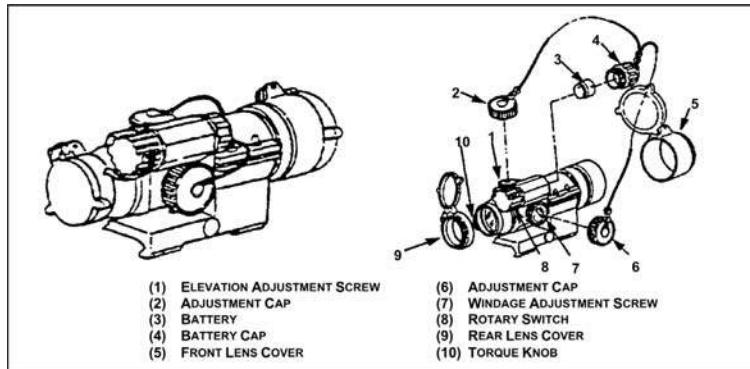

Figure 071-705-0004-3. M68, close combat optic
a. Elevation adjustment screw (figure 071-705-0003-1): One click at 25 meters equals 4 millimeters; clockwise equals down.
b. Windage adjustment screw (figure 071-705-0003-1): One click at 25 meters equals 4 millimeters; clockwise equals left.
c. Rotary switch—10 positions (figure 071-705-0003-1):
- (1) Position 1 equals OFF.
- (2) Position 2 equals NIGHT.
- (3) Positions 3 through 10 equal daytime intensity.